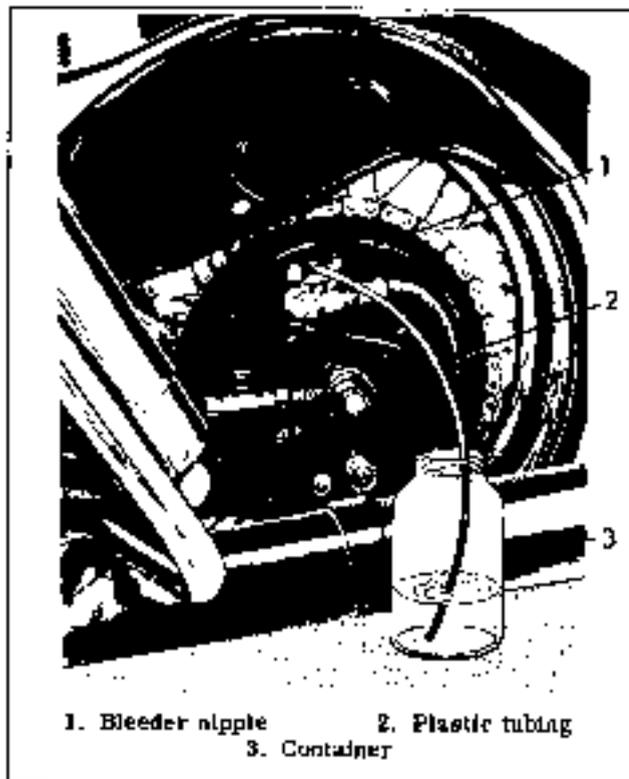

Figure 2-45. Bleeding Hydraulic Brake System
2. Slip a length of appropriate size plastic tubing (2) over wheel cylinder bleeder nipple (1, Figure 2-45 or 17, Figure 2-39D) with the other end in any container (3).